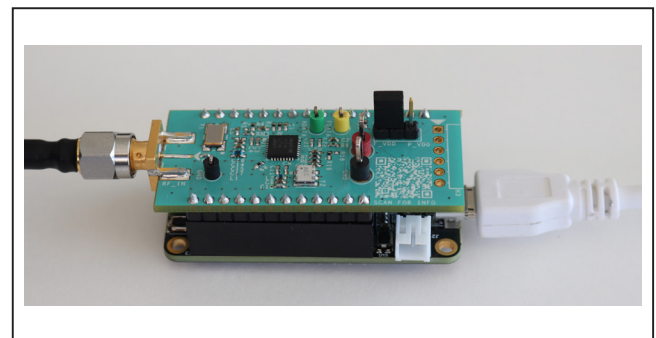

Figure 3. MAX1471 EV Kit Orientation to FTHR Board
- 2) Connect the MAX1471 EV kit to the FTHR board, be sure the USB connector is oriented on the opposite side of the SMA connector as show in Figure 3.
The MAX1471 EV kit controller GUI software is designed to control the MAX1471 evaluation kit board and the MAX32630FTHR board as shown in Figure 3. The software includes USB controls which provide SPI communication to the MAX1471 through the FTHR board interface.